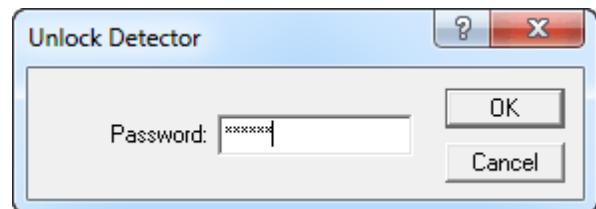
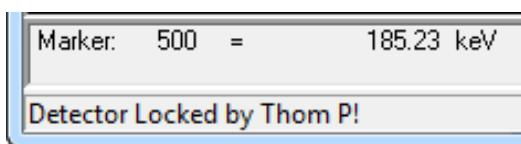

Figure 217. Unlocking a Detector.
Figure 218. Name of Detector Owner.
- **Accessing a locked detector** — If a Detector is currently locked, selecting **Lock/Unlock** will display the Unlock Detector dialog shown in (Fig. 217) and will display the name of the Owner on the Supplemental Information Line, as shown in Fig. 218. You must enter the correct password to unlock the Detector.